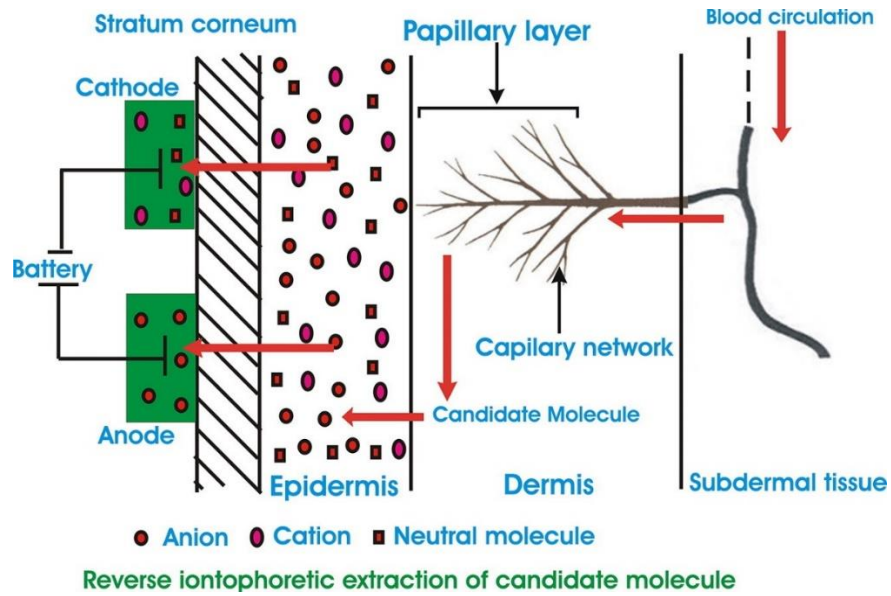

Figure 2 Reverse iontophoretic extraction of candidate molecule. Adopted from [2].
- The Non-invasive and active device. The glucose in the interstitial fluid is extracted using the principle of (reverse) iontophoresis (Figure 2).
You make two points of your skin connected in a circuit with a battery (Figure 2). The positive side of the battery (anode) will attract cations from your blood in your capillary network. And the negative side of the battery (cathode) will attract the anions.